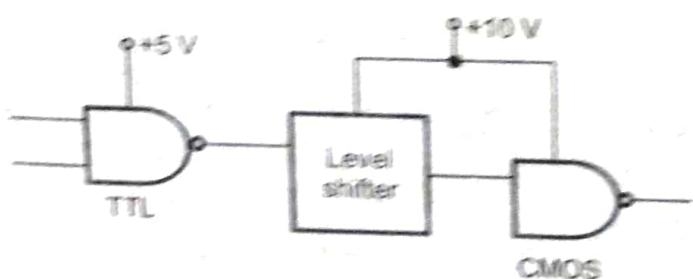

Fig. 7.40 Level shifter used as interface circuit
2. The second alternative is to use level translator circuit, such as the 40104. This is a CMOS chip that is designed to take a low-voltage input (e.g., from TTL) and translate it to high voltage output for CMOS. Fig. 7.40 shows the circuit arrangement.